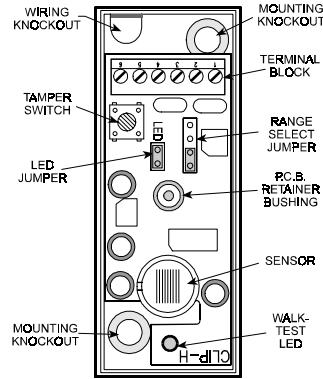
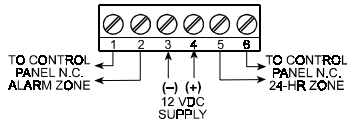
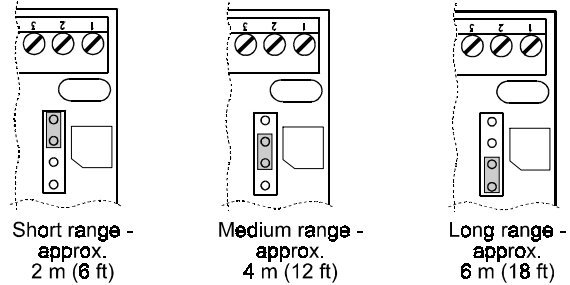

Figure 9. Inside the CLIP-4N
Figure 10. Terminal Block Wiring
Figure 11. Coverage Range Jumper Settings
- E. Mount the base with the PCB at the location and height that gives optimum coverage. Use the two mounting knock-outs (see Fig. 9).
To route wires into the detector, use the wiring knockout located at the top left of the unit base (Figure 9). Since the knockout is angular, the wiring may be inserted from behind the base or from the top, as required for the particular installation. Refer to Fig. 10 and connect wires to the terminal block in the following order:
A 3-pin jumper is used to select 3 coverage ranges for the curtain beams (see Figure 11). The jumpers are shown as seen when the detector is positioned with its terminal block up (refer to Figure 9).